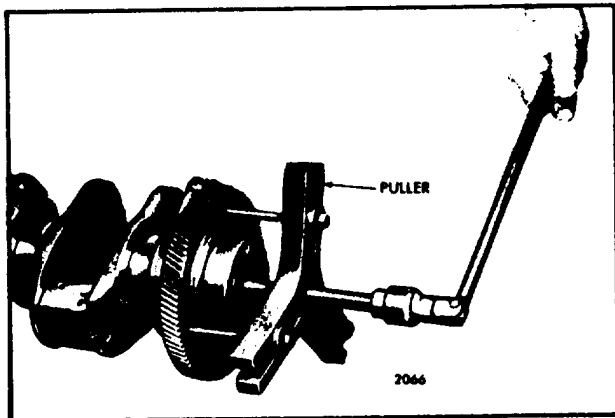

Fig. 1 - Removing Crankshaft Timing Gear With Puller J 4871
1. Attach bar type puller J 4871 to the crankshaft gear with three long bolts or hooks, flat washers and nuts through the holes in the gear as shown in Fig. 1.